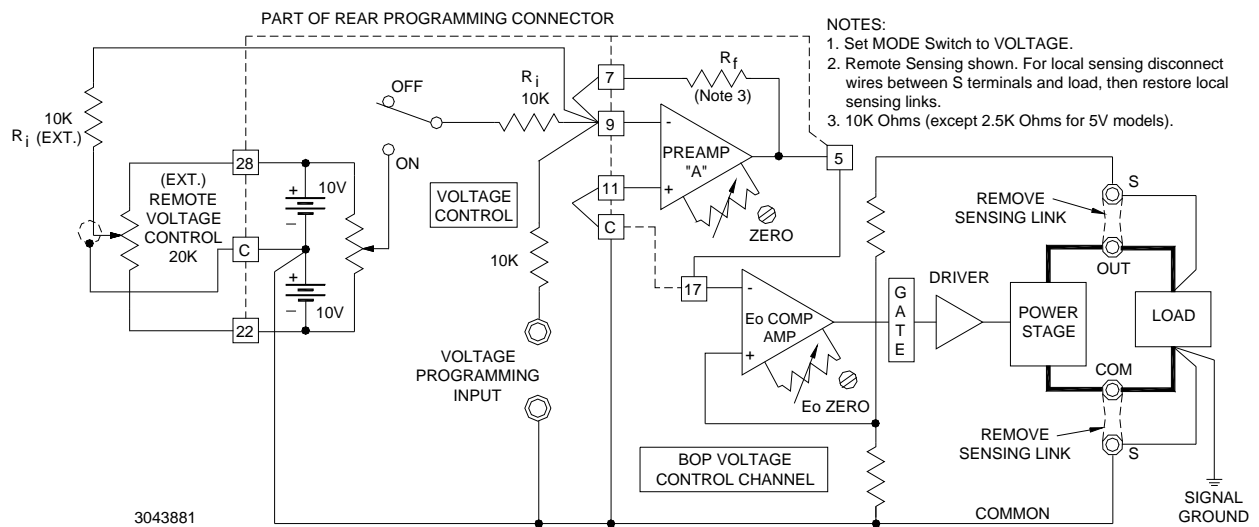

FIGURE 3-6. REMOTE POTENTIOMETER CONTROL OF D-C OUTPUT VOLTAGE
When configured as shown in Figure 3-6, Preamp "A" with the built-in feedback and input resistors has a gain of one and the fixed gain of all BOP models is designed so that a d-c input signal of zero to (\pm)10 volts will control the BOP output through its specified range. When the front panel VOLTAGE CONTROL switch (2, Figure 2-1) is set to OFF, operation is similar to local control described in PAR. 3.3.1, except that an external potentiometer is substituted for the front panel VOLTAGE control (3).